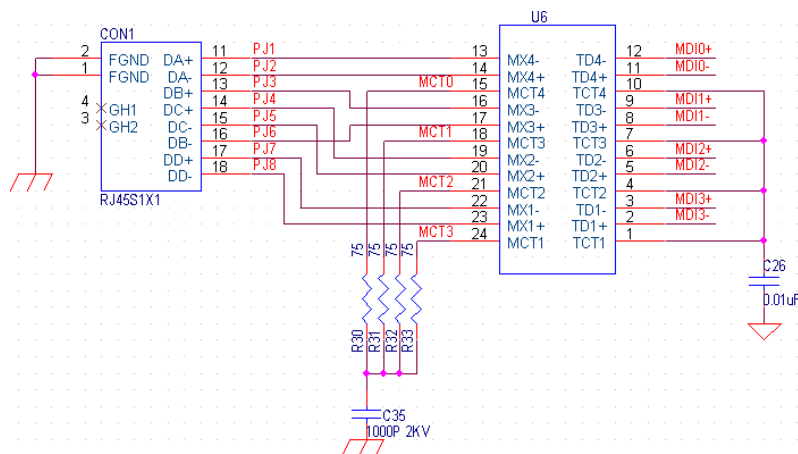

Figure 14. Separate Transformer
- When using a separate transformer, the center-tap MUST be aggregated (pins 10, 7, 4, 1) (C26 Value: $0.1\mu\text{F}\sim 50\text{pF}$) (see Figure 14)